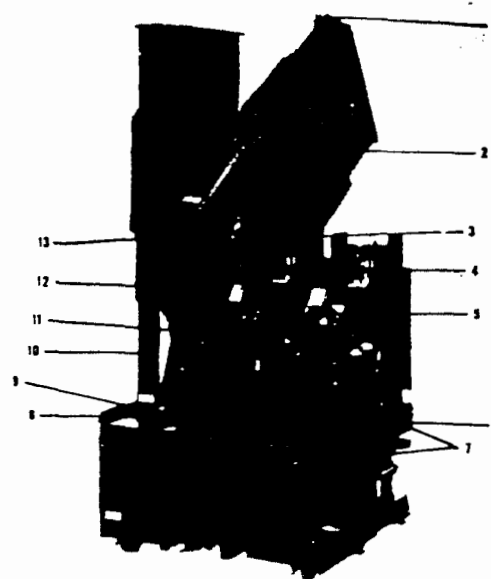
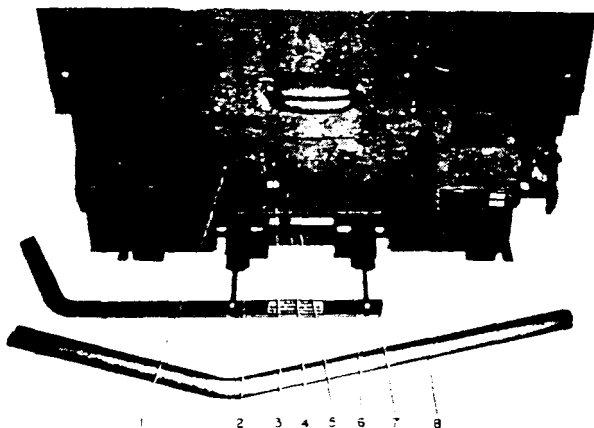

Fig. 1 — View Showing Arc Chute and Contact Structure
Fig. 2 — Front View of Control Panel
IF IT IS NECESSARY TO RAISE OR MOVE THE BREAKER, ATTACH THE LIFTING YOKE AT POINTS 7 (FIGURE 1), OR A FIFTH WHEEL AT POINT 5 (FIGURE 2) TO TRANSPORT THE BREAKER AS REQUIRED.
3.4 REMOVING ARC CHUTES (See Figure 1)
3.7 MANUAL SLOW-CLOSE TO CHECK CONTACT PRESSURE (Figure 2)
3.8 INSTALLING ARC CHUTES (See Figure 1)
3.10 INSTALLING CIRCUIT BREAKER INTO COMPARTMENT (See Figures 2 and 4)
1. Turn motor disconnect switch (if supplied) (1, Figure 2) to "OFF" position.
3. Engage fifth wheel with hole guide (5, Figure 2) and push circuit breaker into compartment until stopped.
6. With the circuit breaker racked to "TEST" position, check for proper operation by operating all possible means of opening and closing. This includes control switches, relays, etc. Turn motor disconnect switch (1, Figure 2) to "ON" position to charge the closing springs, and operate the breaker as required. If motor disconnect switch (1, Figure 2) is not provided, springs will automatically charge when approaching "TEST" position.